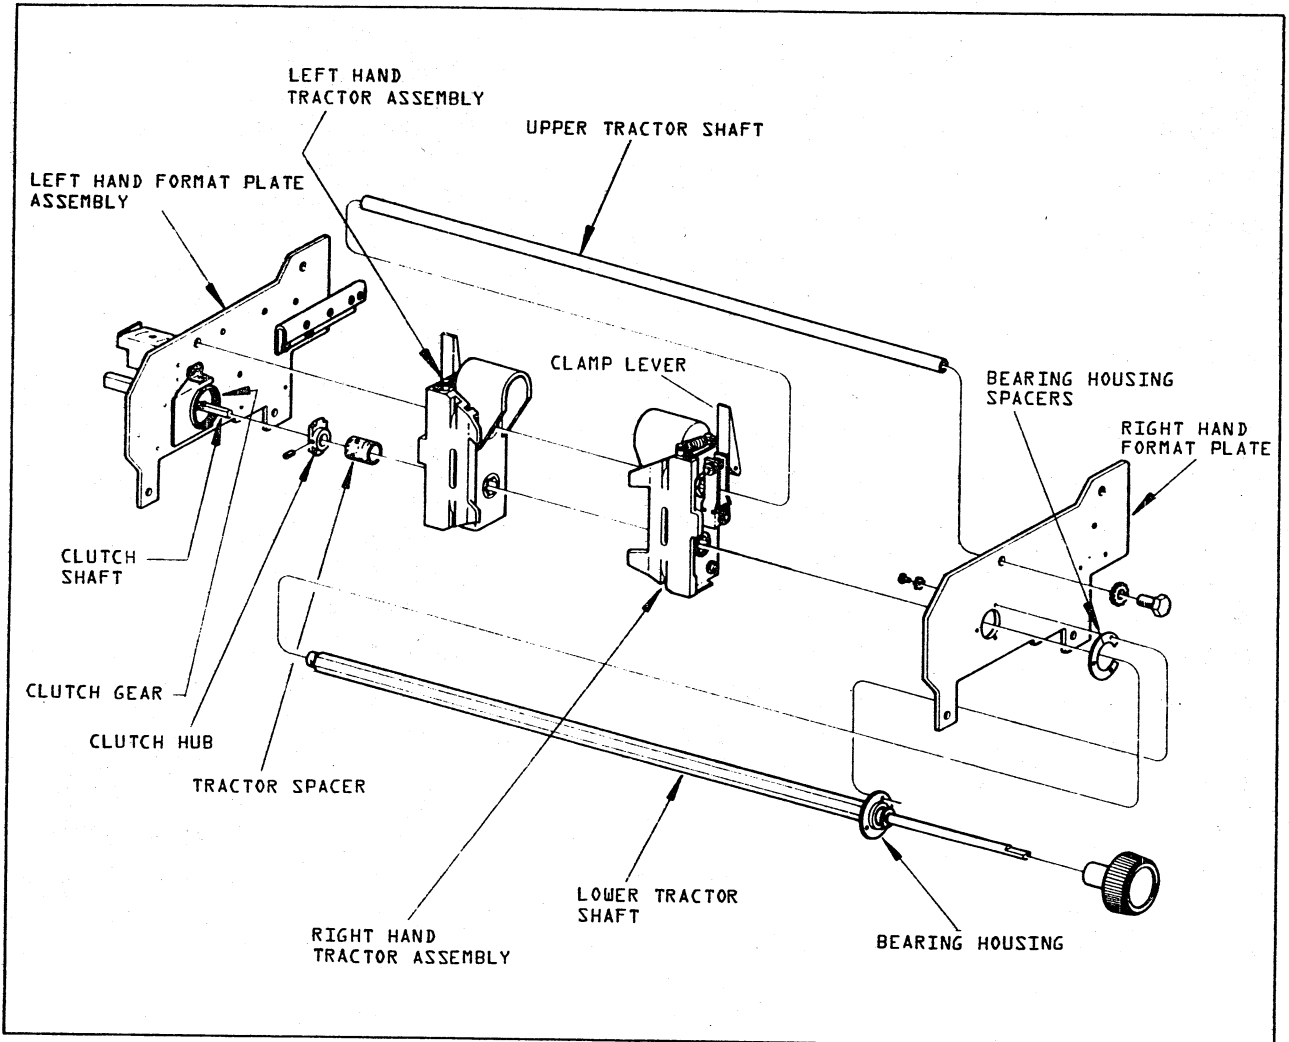

FIGURE 8-9. TRACTOR ASSEMBLY REPLACEMENT
Removal (Figure 8-9)
Installation (Figure 8-9)
2. Remove the three screws that mount the bearing housing to the right hand format plate (Figure 8-9).
3. Slide the lower tractor shaft and bearing housing to the right until the clutch hub clears the clutch gear and is approximately 6 inches from the left hand format plate assembly (Figure 8-9).
4. Remove the bearing housing spacers (Figure 8-9).